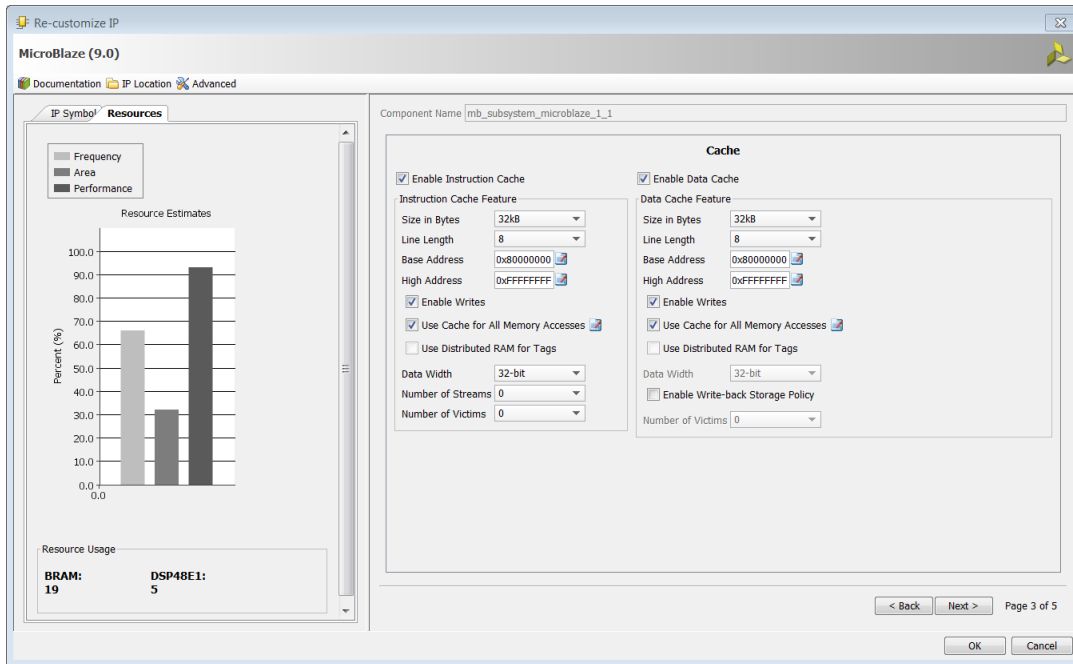

Figure 85: Page 3: Re-customize IP
4. On page 3 of the MicroBlaze Re-customize IP dialog box (Figure 85):